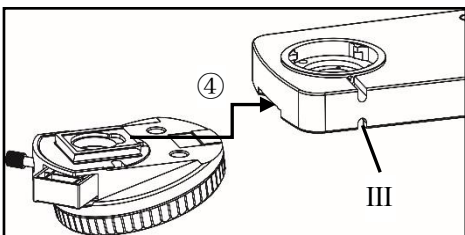

Figure 6
**4-2-4 Installation Nosepiece (Figure 6)**
Insert the converter into the swallowtail groove of the microscope shown ④ in Figure 6, push to the innermost, and tighten the screws at III with a universal wrench to secure them.